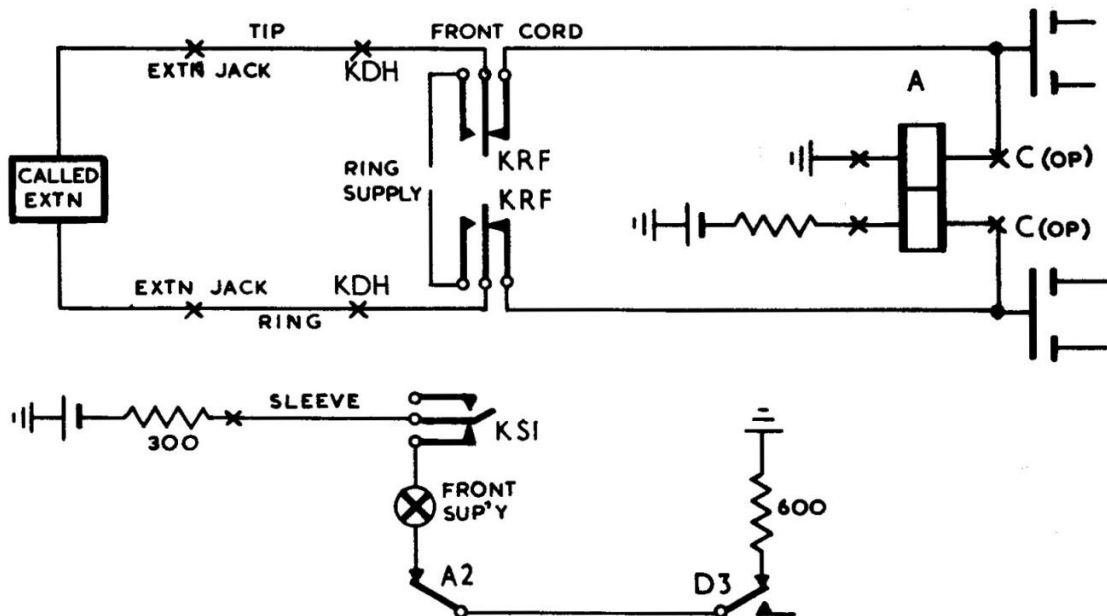

FIG. 4. CALLING THE REQUIRED EXTENSION.
- 5.4 Extension Connected to Another Extension. When another extension is required, the operator inserts the front cord of the selected pair of cords into the required extension jack, and operates the Ring Front key (KRF). The lamp circuit of the called extension is disconnected at the jack springs, and when the Ring key and Speak key are restored, the front supervisory lamp glows until the called extension answers (Fig. 4). If the Speak key is left operated, the front lamp does not glow.